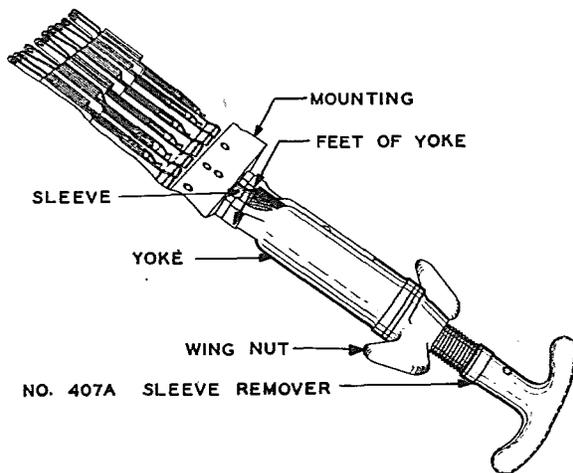

FIG. 4 - METHOD OF EXTRACTING SLEEVE WITH WITH NO. 407A SLEEVE REMOVER
3.08 Holding the yoke portion of the No. 407A sleeve remover so that the feet of the yoke are in line with the jack mounting, turn the wing nut in a clockwise direction until the feet of the yoke come into contact with the face of the jack mounting as shown in Fig. 4. If the sleeve is being replaced on a jack which is close to the stile casing of the switchboard it may be necessary to straddle vertically the sleeve being removed or in extreme cases where this cannot be done hold one foot of the yoke against the stile casing and insert an insulating spacer equal to the thickness of the stile casing under the other foot of the yoke. Continue to turn the wing nut until the sleeve can readily be pulled out of the mounting.